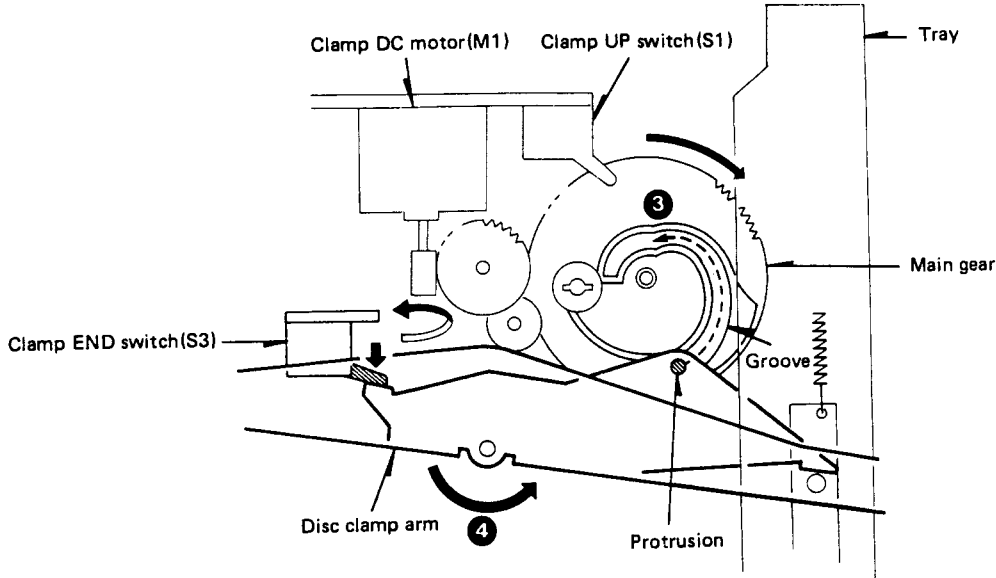

Fig. 5 Tray OPEN operation (2)
arrow as indicated before, the protrusion placed at the lower side of the disc clamp arm is led in the direction of an arrow (3) along the groove of the main gear. Thereby, the disc clamp arm is rotated in the direction of an arrow (4) (Figure 5).